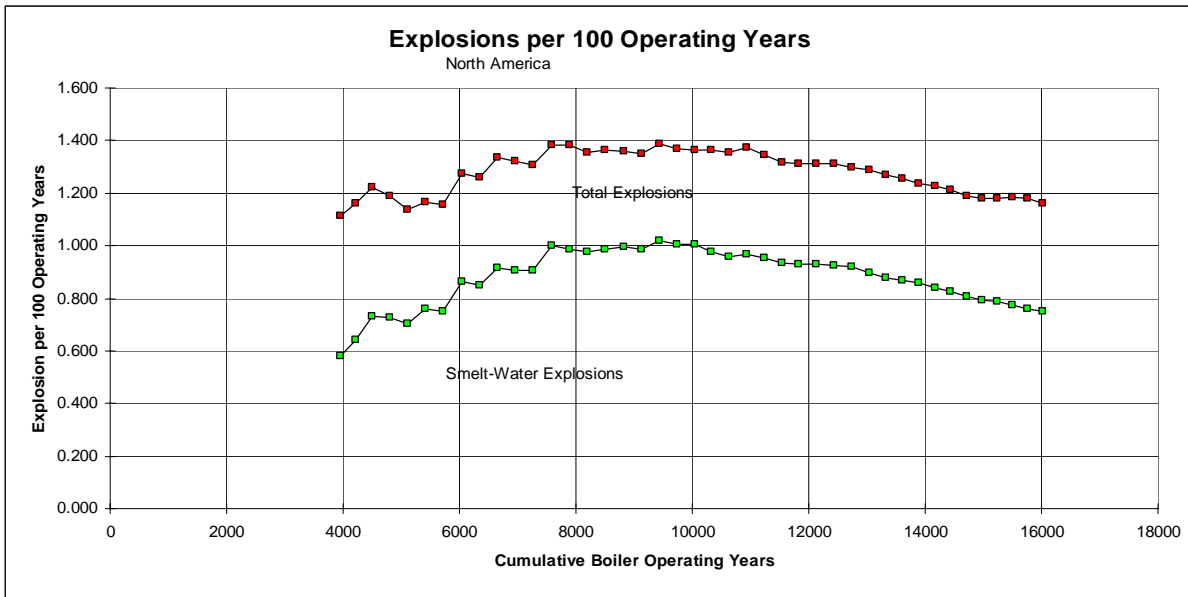

Figure 5
Figure 5 is a plot of explosion history per 100-boiler operating years. The smelt water explosion experience is continuing to trend down over time, but the total explosions seem to be starting to level off at just under 1.2 explosions per 100 boiler years. That includes all causes combined, and is being driven by the recent dissolving tank explosions. The factor is calculated by a summation of all reported explosions since 1948 divided by a summation of the number of boilers reported in service each year during the same period. We all need to continue the making the efforts to try to keep that trending down. Effort should be focused in developing better procedures to handle heavy smelt runs and plugged spouts.
- c) Several comments were received noting that Figure 5 does not reflect the piping arrangement for "High Solids" systems. The subcommittee is going to proceed with a separate revision that will add a figure (Fig 5A) and explanation for systems that use pressurized storage tanks and fire at "high solids" (greater than 75%).